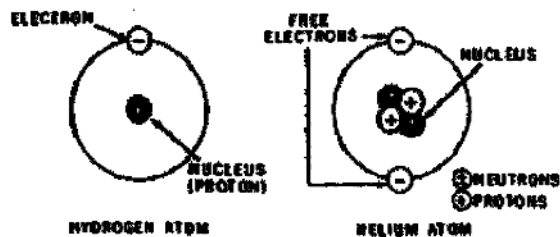
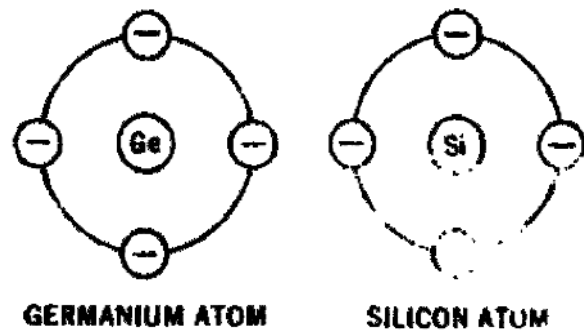

Figure 102. Structure of atoms.
Figure 103. Atoms of semiconductors.
5. **Atomic Number.** Atoms of different elements are found to have a different number of protons and neutrons in their nucleus. The atomic numbers of some of the elements are listed in figure 101. Figure 102 shows the structure of a hydrogen atom and a helium atom, two examples of good conductors. Figure 103 shows the structure of a germanium atom and a silicon atom, which are examples of a semiconductor.